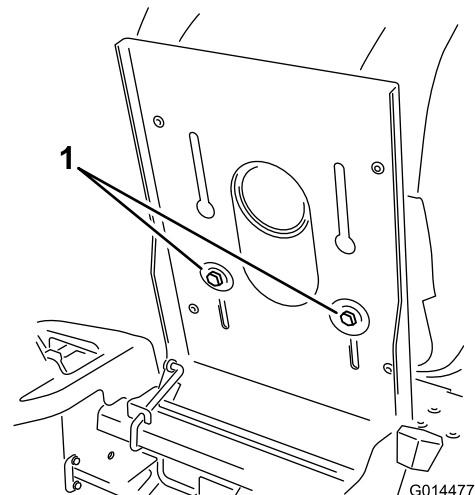

Figure 22
1. Raise the seat and loosen the adjustment bolts just enough, so that the seat can move (Figure 22).